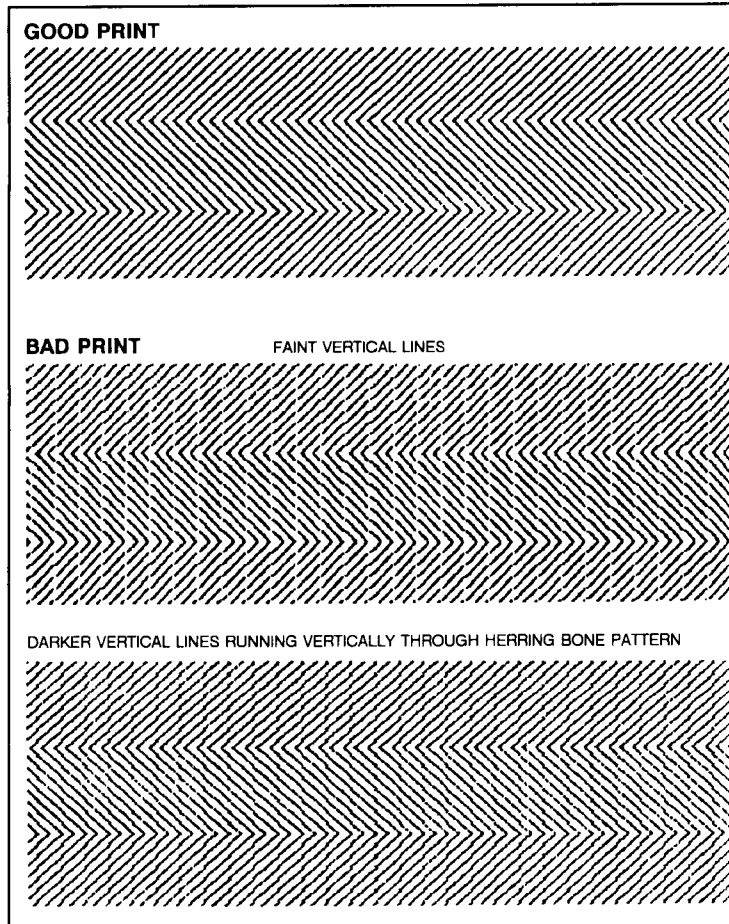

Figure 5-9. Subtest 5 - Turnaround Adjustment Printout
To determine if the turnaround time is adjusted correctly, observe the dot pattern created by diagnostic subtest number 5 (see Figure 5-9).
If it is not adjusted correctly either faint white lines or slightly darker lines can be seen running vertically through the herring bone pattern (see Figure 5-9).
- d. Check the results of the adjustment. To check the adjustment, perform diagnostic test number 5 (or test number 7). If faint vertical lines, either light or dark, can still be seen running through the pattern (see Figure 5-9), return to step "b" and either increase or decrease until the lines disappear.